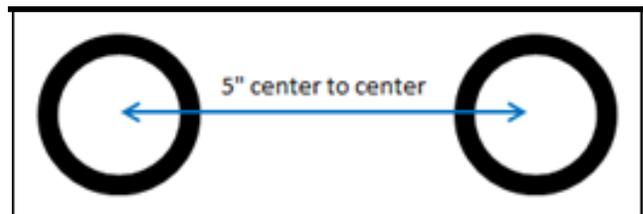

Fig. 3 — HDPE Pipes must be spaced 5" on center
- c. Vertical piping entering the flow center must be 1-1/4" HDPE, 5" on-center spacing of the pipes (see Fig. 3).